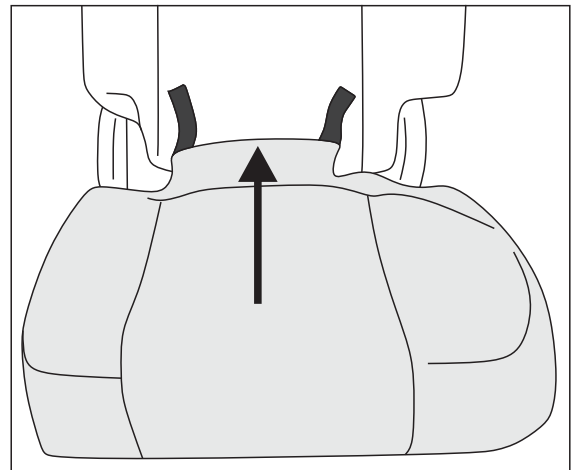

Fig. 15
15. Align the smaller base cover to the seats contours and roll around the edge of the seat. Push the middle parts of the base cover through in-between the seat base and backrest. (Fig. 15)